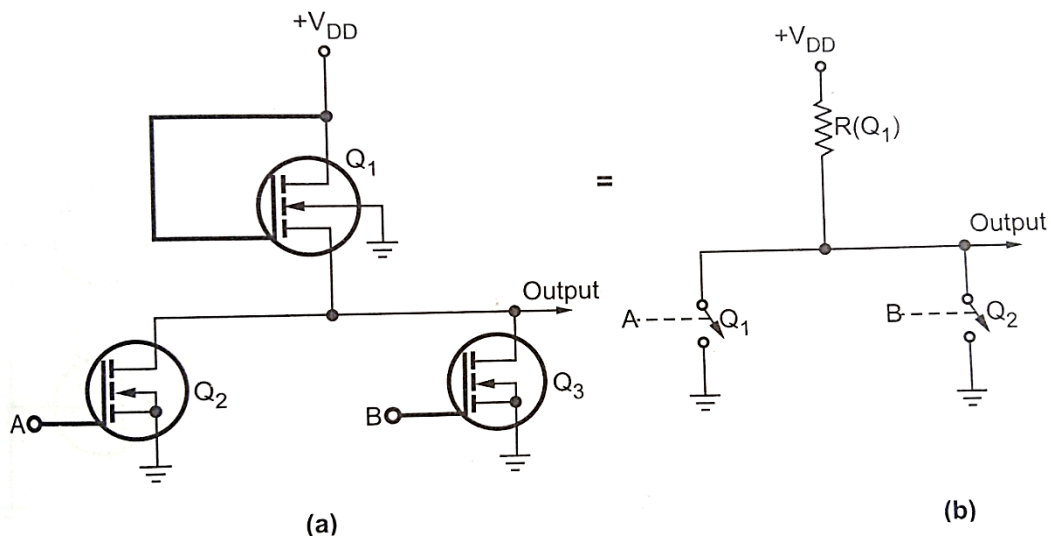

Figure 1.24:2-input NMOS NOR gate
- Figure 1.24 shows 2-input NMOS NOR gate. Q1 acts as a load resistor and Q2 and Q3 are the switching MOSFETs controlled by the inputs A and B.